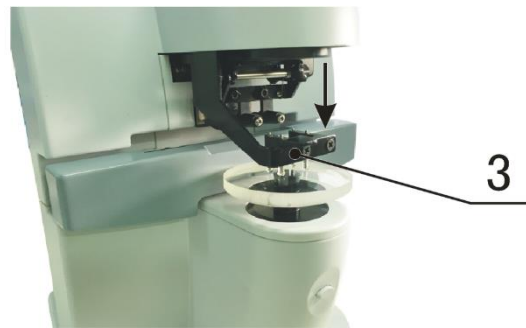

Figure 6-4
2. **Fix the lens with the lens holder (part 3 in follow figure6-4).**